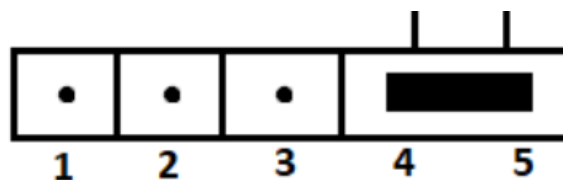

Figure 3 – Auto Learn Mode
- On subsequent presses, the receiver board will begin to operate. Figure 3 – Auto Learn Mode